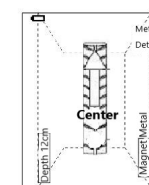
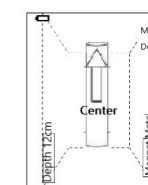
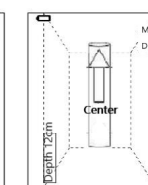

Figure 4
Figure 5
Figure 6
- Metal icons: the steel bar icon represents magnetic metal, and the measured object is generally steel bar; the copper pipe icon means non-magnetic metal, and the measured objects are generally copper pipe or alloy. When the instrument is judged to be magnetic metal or non-magnetic metal, the distance from the instrument to the metal object will be displayed (as shown in Figure 4 and Figure 5); otherwise, it will not be displayed (as shown in Figure 6).